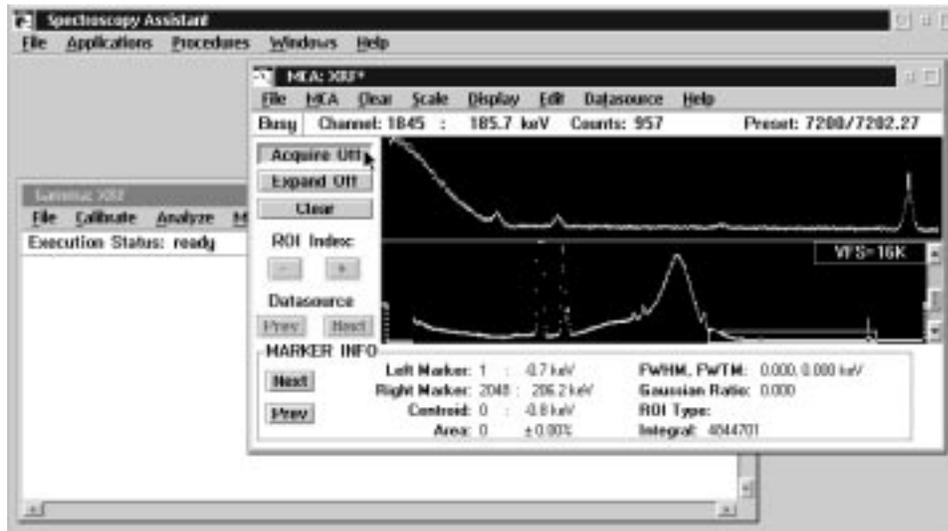

Figure 15. Window showing selection of “Acquire Off” button to halt data acquisition.
20. Select the “Acquire Off” button in “MCA View Control” as shown in Figure 15 to halt data acquisition.